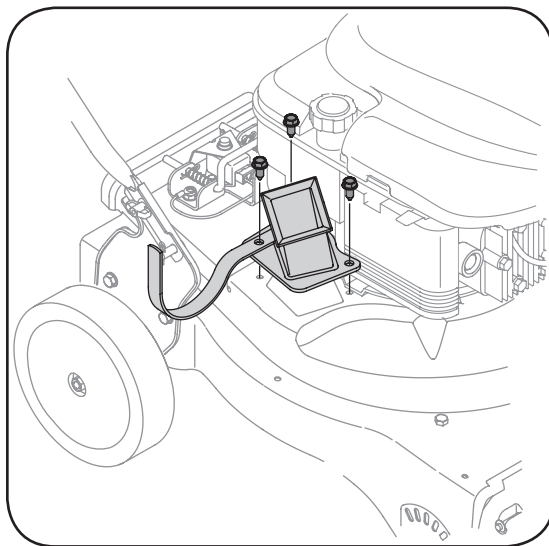

Figure 5-3
3. Remove the three hex cap screws holding the hose hanger bracket and chipper chute to the upper housing. See Figure 5-3.